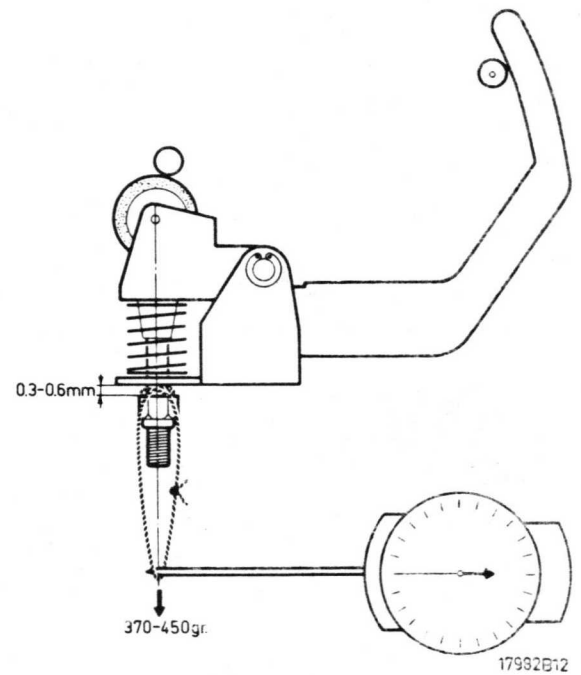

Fig. 8
4. Pressure roller (Fig. 8)
- Pull back the pressure roller with the spring pressure gauge, as shown in Fig. 8, with the aid of a string.